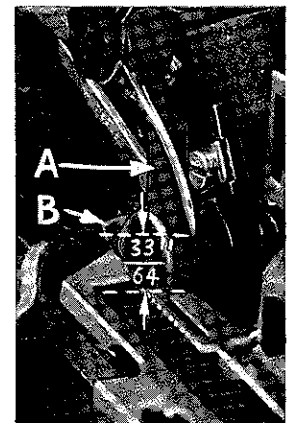

Fig. 3
With throat plate assembled in position, needle should center in the front end of needle slot. When needle is at high position, needle point should be set $33/64$ inch above the throat plate (Fig. 3). To align needle or set the height above the throat plate, move needle driving arm (A, Fig. 3) by loosening clamp screw (B). After needle has been properly set, tighten clamp screw and remove throat plate.